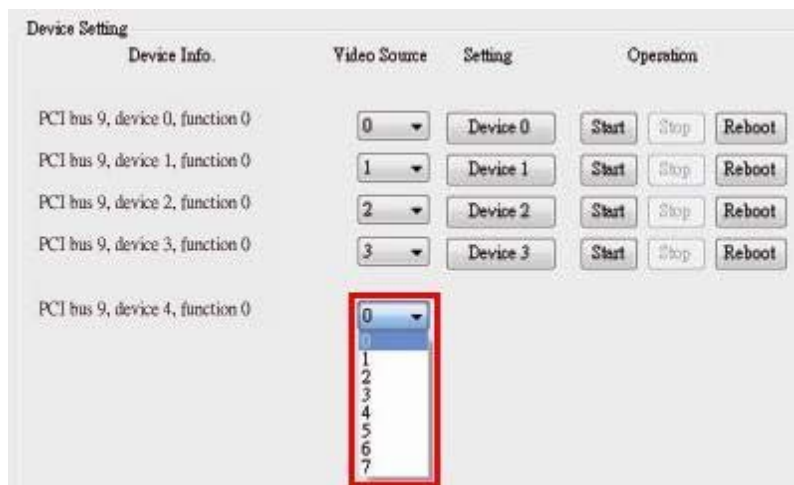

Figure 2-9: Select Transmitter Device for HDC-304E
- Step 4:** **This step is only required for the HDC-302E.** Select the transmitter bus (0 or 1) (Figure 2-9). For example, to view the video input source 1 on HDMI display device, select the transmitter bus 0. Please refer to the following table:
Step 5: This step is only required for the HDC-304E. Select the transmitter bus from 0 to 3 (Figure 2-9). For example, to view the video input source 1 on HDMI display device, select the transmitter bus 0. Please refer to the following table: